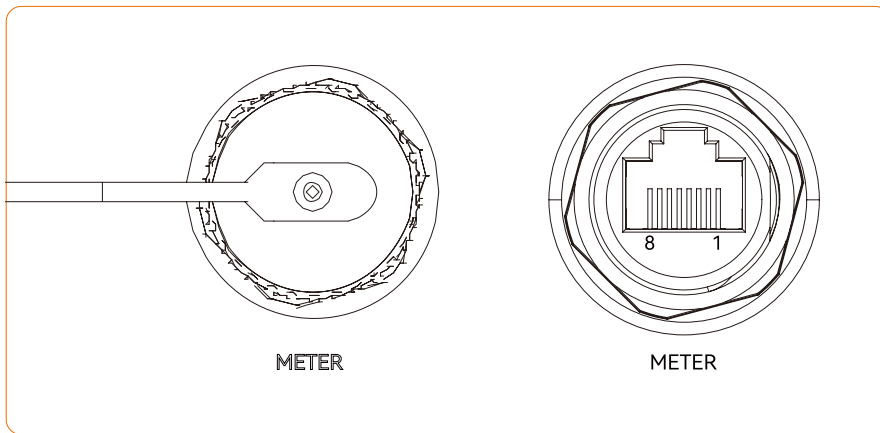

Figure 4-29
- ① Remove the Meter port cover on the left side of the inverter base. Refer to Figure 4-29.